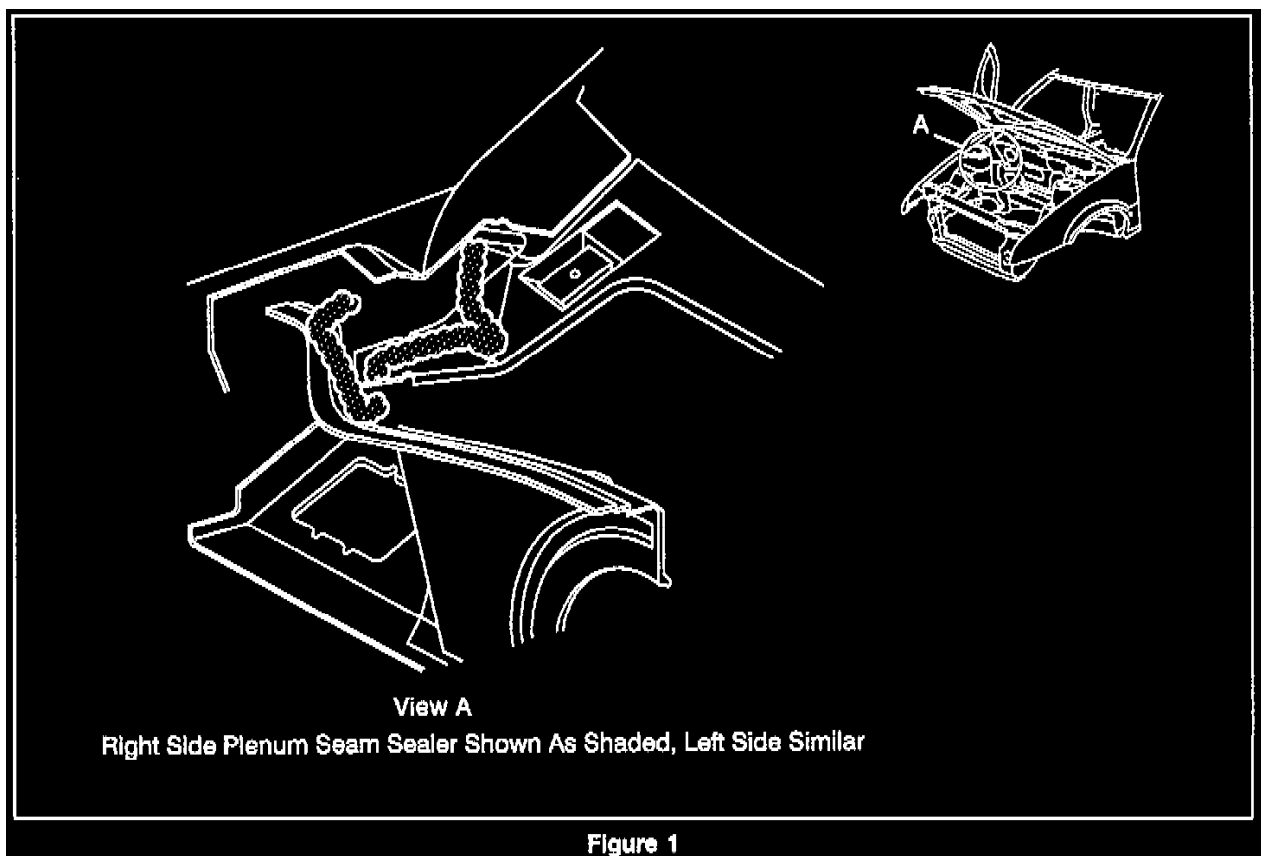

Figure 1
1. Sealer skip/void or spot weld burn through at plenum seam. Refer to Figures 1 and 2.	1. Remove air inlet screen. Refer to Section 10-5 of the Service Manual. 2. Inspect for a skip or void in the plenum seam sealer or for spot weld burn through. 3. Apply clear sealer to any skip or void in the plenum seam sealer or to any spot weld burn through. 4. Allow sealer to dry. 5. Direct water over the plenum seam. 6. Inspect from passenger compartment for leaks. 7. Install air inlet screen. Refer to Section 10-5 of the Service Manual.
1. Sealer skip/void or spot weld burn through at plenum seam. Refer to Figures 1 and 2.	<ol style="list-style-type: none"> <li>1. Remove air inlet screen. Refer to Section 10-5 of the Service Manual.</li> <li>2. Inspect for a skip or void in the plenum seam sealer or for spot weld burn through.</li> <li>3. Apply clear sealer to any skip or void in the plenum seam sealer or to any spot weld burn through.</li> <li>4. Allow sealer to dry.</li> <li>5. Direct water over the plenum seal.</li> <li>6. Inspect from passenger compartment for leaks.</li> <li>7. Install air inlet screen. Refer to Section 10-5 of the Service Manual.</li> </ol>